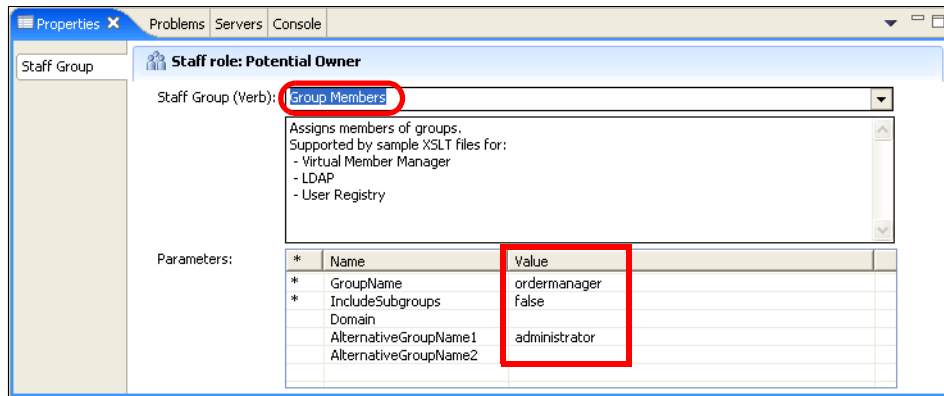

Figure 16-15 Human Tasks: Set properties for Potential Owner
- ▶ Set the following values (Figure 16-15):